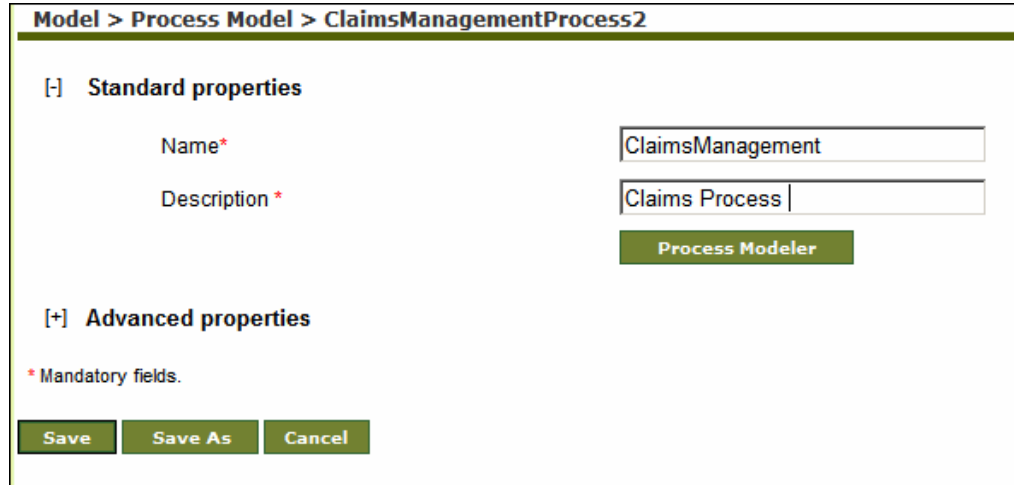

Figure 10.1: Edit Process Model
3. Select the radio button against the required process model and click **Edit** link. This displays the Edit Process Model screen (see Figure 10.1).